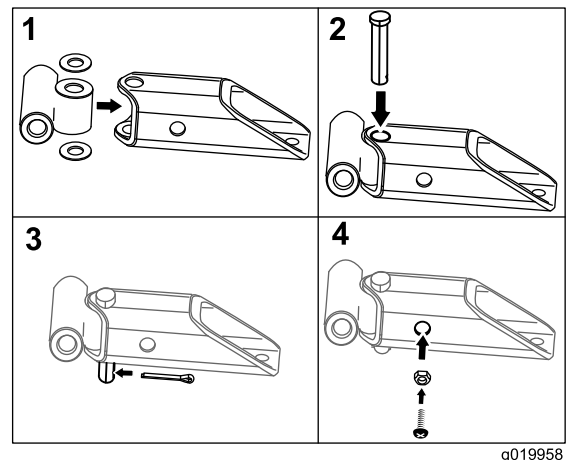

Figure 4
1. Place the 2 thrust washers on each opening of the hitch assembly and set it inside the pivot tube (Figure 4, Box 1).
2. Slide the clevis pin through the top of the pivot tube, the first washer, the hitch assembly, the second washer, and the bottom of the pivot tube (Figure 4, Box 2).
3. Secure with the cotter pin (Figure 4, Box 3).
4. Place each carriage bolt (1/2 inch) in a jam nut (1/2 inch) (Figure 4, Box 4).
5. Thread each carriage bolt into the side of the pivot tube (Figure 4, Box 4).